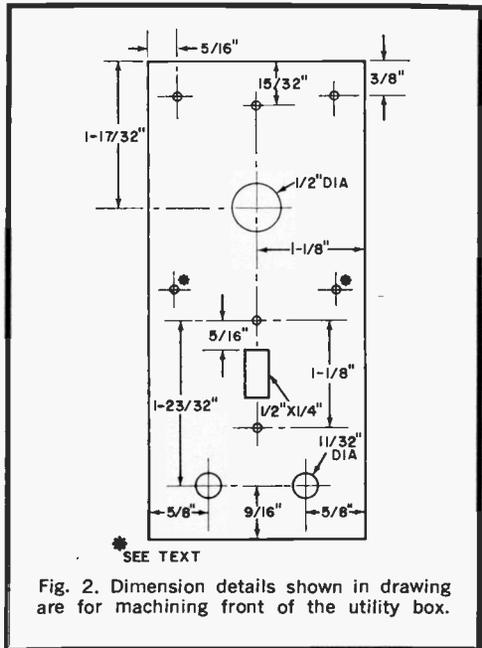

Fig. 2. Dimension details shown in drawing are for machining front of the utility box.
**Construction.** The prototype Beginner's Signal Generator was built into a 5" x 2¼" x 2¼" aluminum box. The power switch, tuning dial for C2, and output binding posts BP1 and BP2 are located on the front of the box. The first step in construction is to cut or drill the component mounting holes in the front of the box as shown in Fig. 2. (Note: if you prefer, you can substitute a miniature toggle switch for S1. In this case, drill the appropriate size round hole for the rectangular hole shown and elimi-